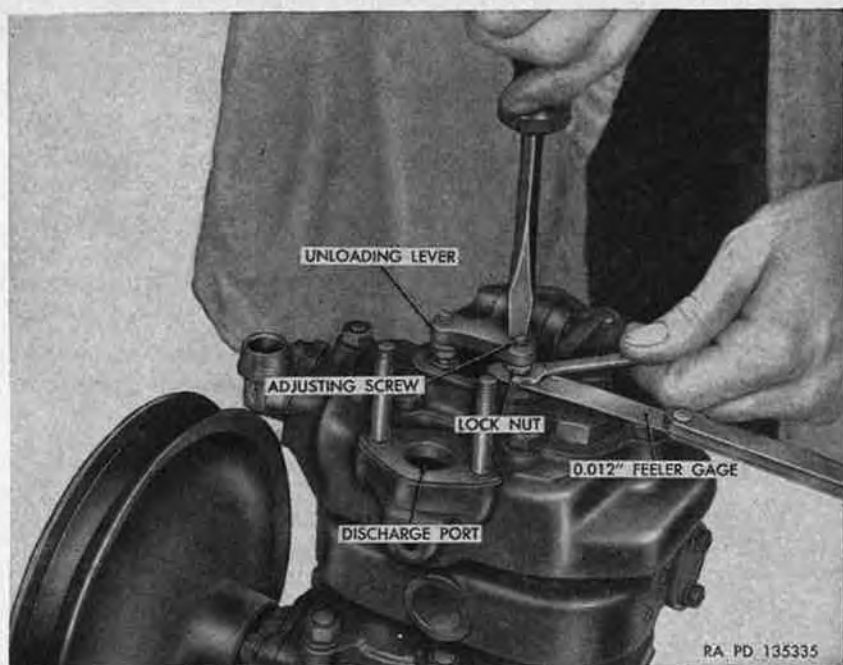

Figure 249. Checking and adjusting air-compressor unloader valve clearances.
- (b) Using feeler gage (fig. 249), check clearance of unloader valves. Clearance should be 0.010 to 0.015 inch. If clearance is not within these limits, adjust valves ((c) below). If clearance is correct, proceed as in (d) below.
- (c) Loosen locknut (fig. 249) on both adjusting screws, turn screws until 0.12-inch clearance is obtained, and tighten locknuts.